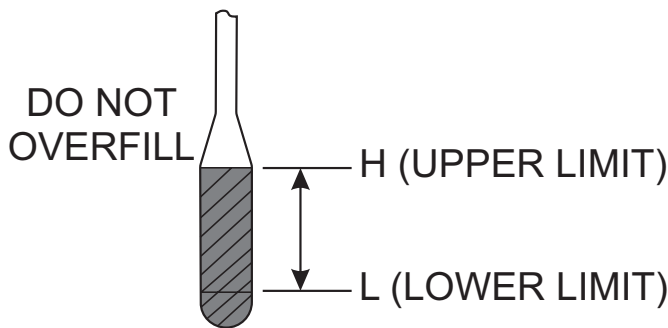

Figure 50. Dipstick Engine Oil Level
3. Determine if engine oil is low. Oil level should be between the upper and lower limit (Figure 50) on the dipstick.